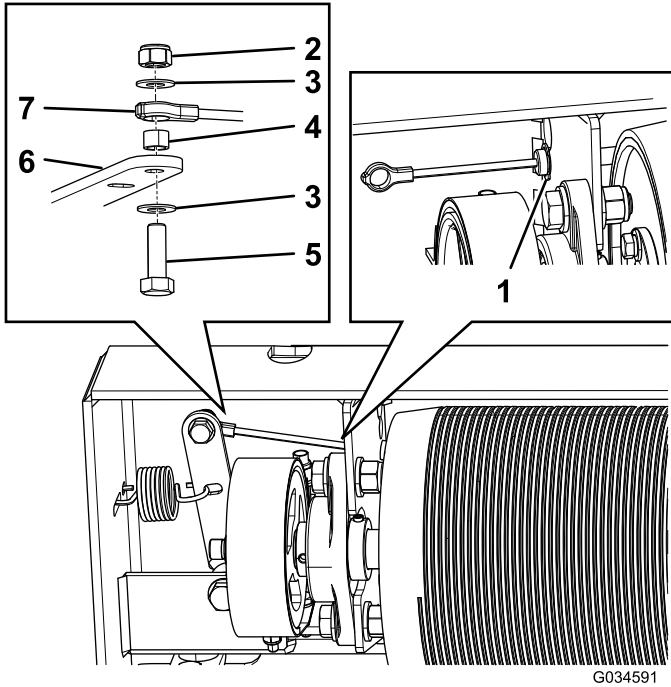

**Figure 3**
6. Remove the cable clamp as follows (Figure 3):